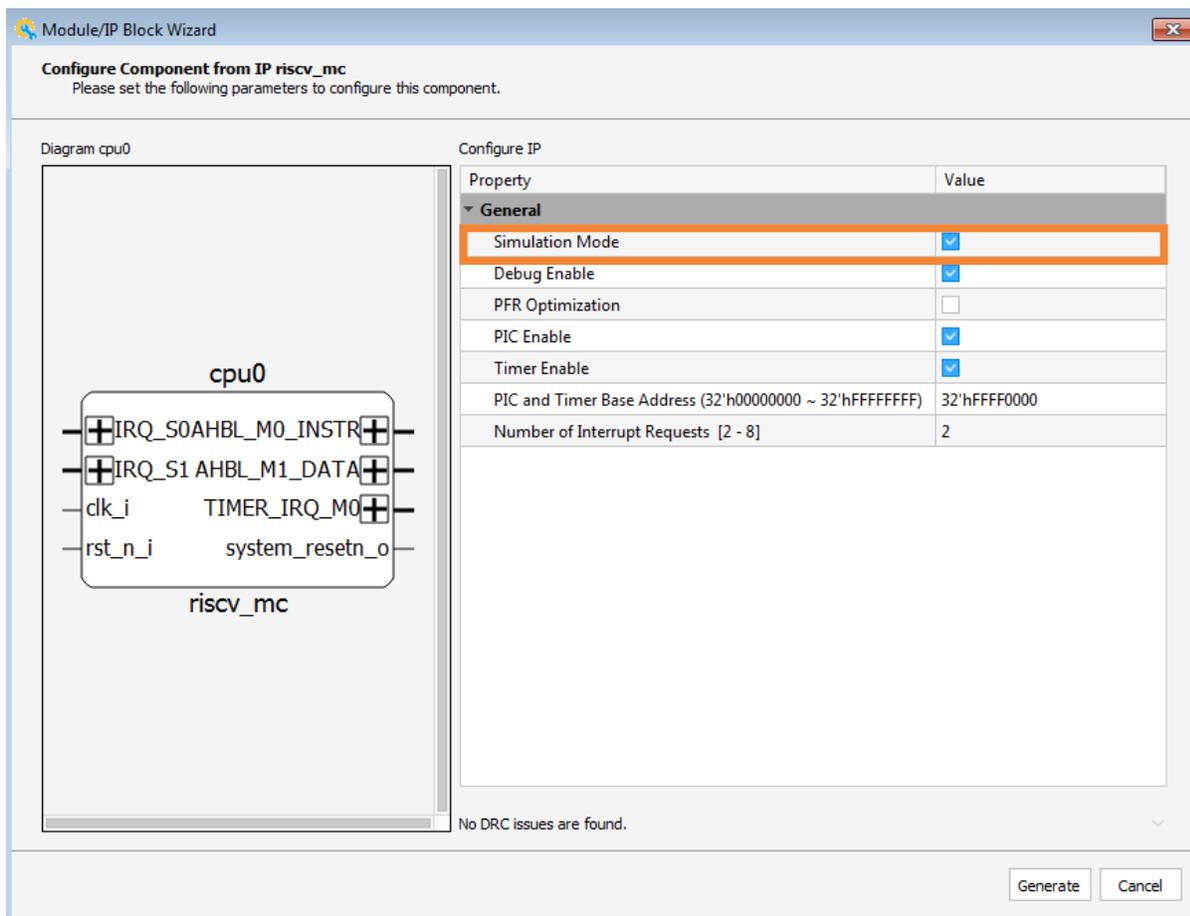

Figure 3.20. Configure Module RISC-V MC
- Enable checkbox **Simulation Mode** for *RISC-V MC* IP module from the **General** area (Figure 3.20).